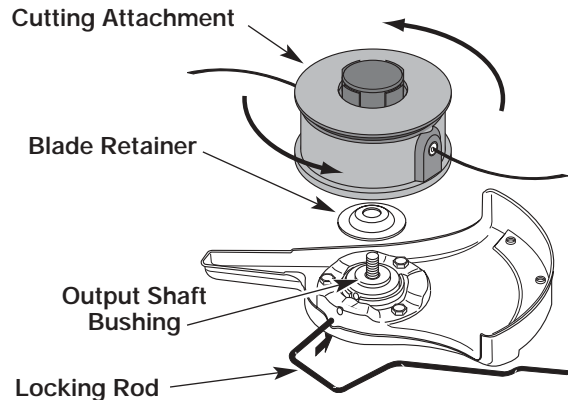

Fig. 22
5. Align the shaft bushing hole with the locking rod slot and insert the locking rod into the shaft bushing hole (Fig. 15). Place the blade retainer on the output shaft with the flat surface against the output shaft bushing (Fig. 22). Screw the cutting attachment counterclockwise onto the output shaft. Tighten securely.